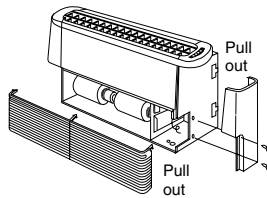

Figure 8
7. Unscrew at the grille bottom hinges, and pull out the screw. Then, push down on the panel and pull out (Figure 8).